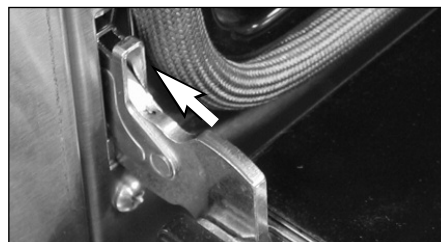

Fig. 09
4. Open the door completely and rotate the locks into the closed position (Fig. 09).